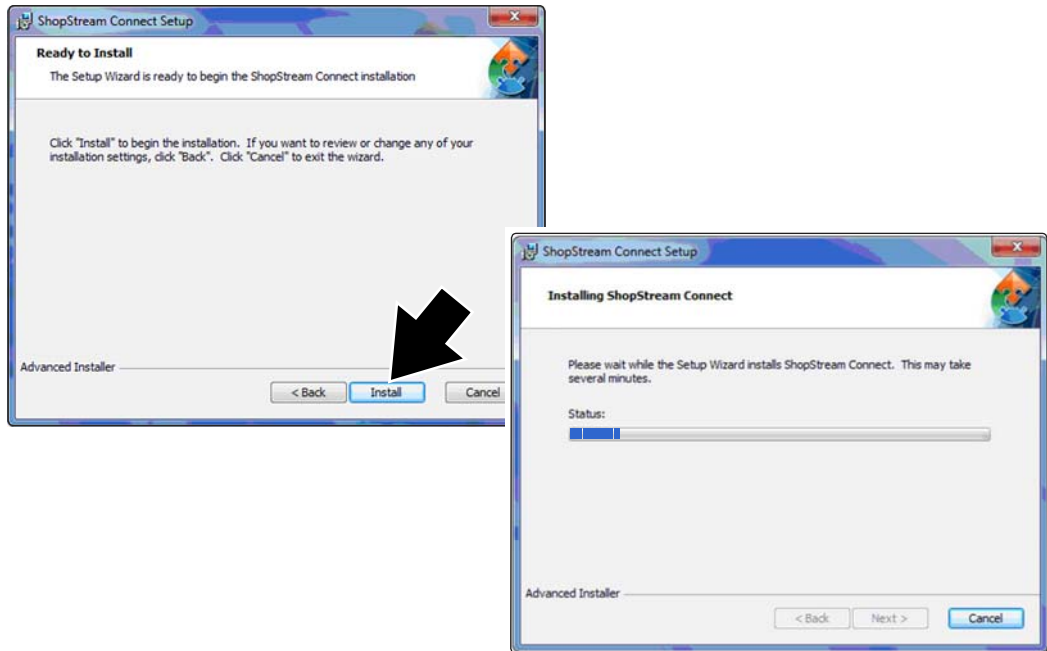

Figure 3-4 Typical install and status screens
5. Select **Install** to begin installation (Figure 3-4).